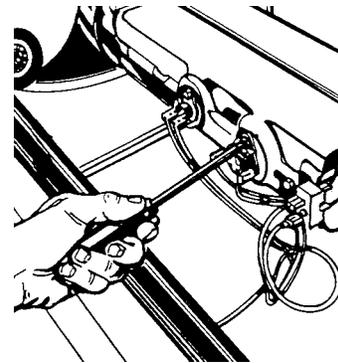

Fig. 34
5. Remove screws to high limit thermostat or thermal cutoff. (Fig. 34) Remove high limit thermostat or thermal cutoff.